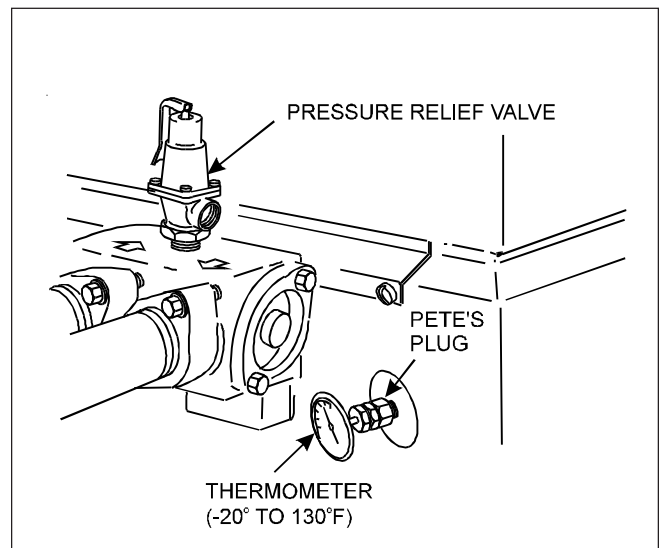

Figure 16. Thermometer and pressure relief valve.
To install a pressure relief valve, remove the 3/4 inch (19 mm) brass plug located on the top of the inlet/outlet header (see Figure 16). Install the pressure relief valve in the threaded hole from which the plug was removed. The pressure rating of the valve should be at or below the lowest working pressure of any component in the filter system. Any pressure relief valve installed must comply with provisions of the Standard described in ANSI Z21.22.
4. Remove the drain plug located on the inlet/outlet header of the heater and replace it with a Pete's plug (see Figure 16).
5. Insert a pocket thermometer (see Figure 16) through the Pete's plug into the header.
3. Insert a pocket thermometer (see Figure 16) through the Pete's plug into the header.